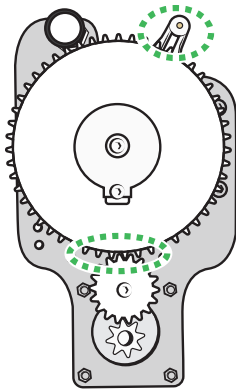

Figure 132
17. Make sure the large gear wheel is in the correct position according to picture. See Figure 132.